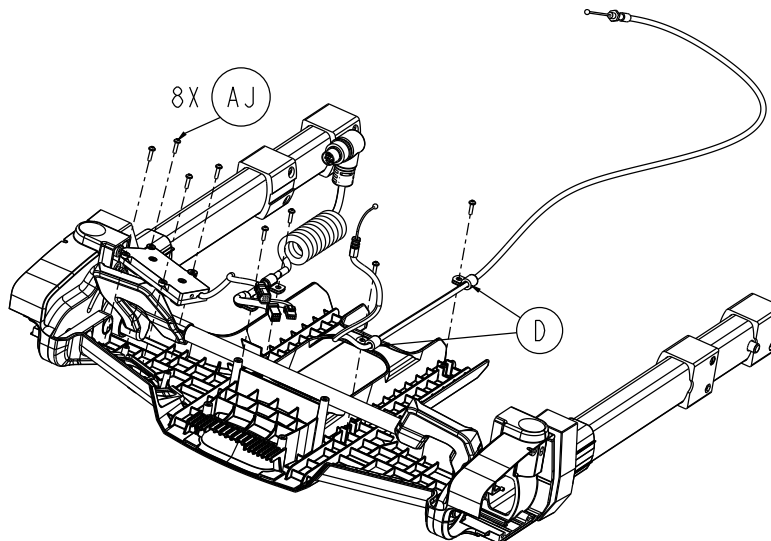

Figure 25 –
17. Using a T10 Torx driver, remove the round washer head tapping screws (AJ) from the foot section. Then, remove the cable clamps (D) from the manual release cable (Figure 25). Save the cable clamps and screws.